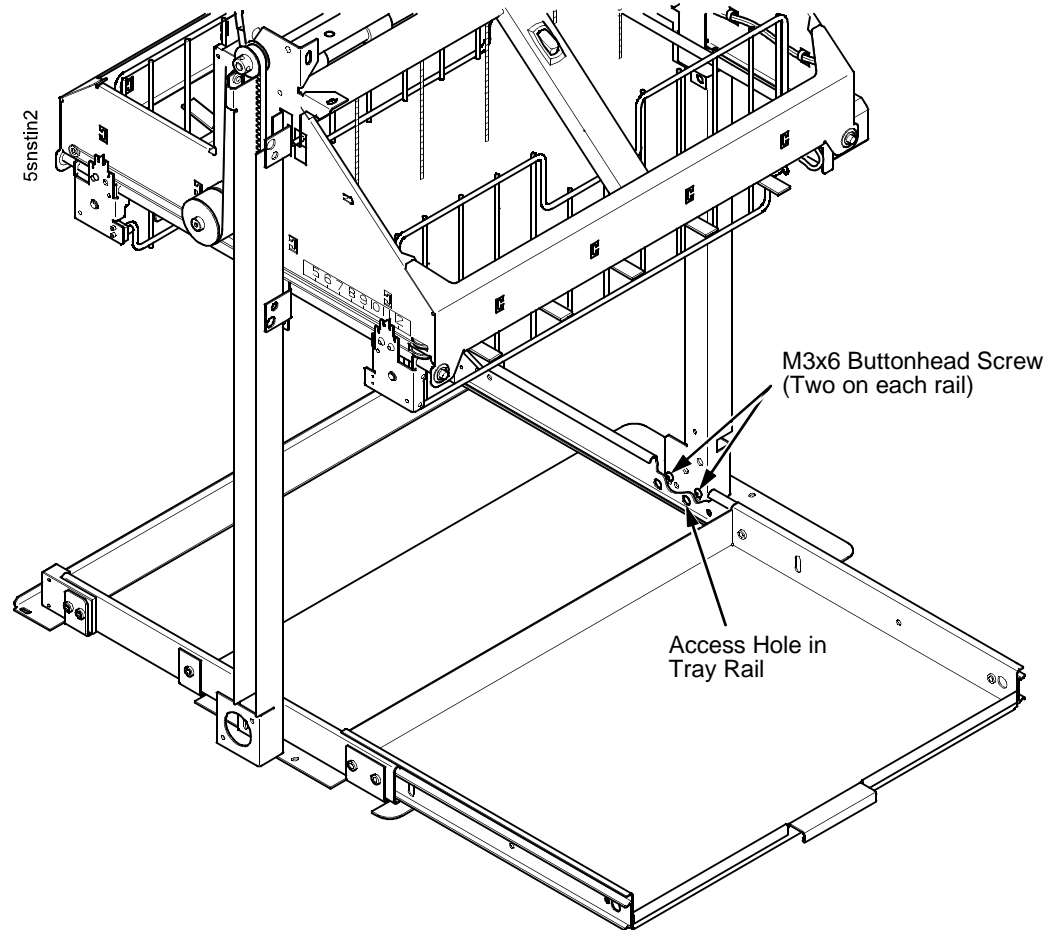

Figure 88. This figure shows how to loosen the lower screws in the vertical rails of the stacker.
15. Pull the paper tray out until the holes in the rails permit access to the M3 buttonhead screws. (Figure 88.)
16. Loosen one turn—do not remove—the M3x6 screws securing the vertical rails to the stacker base. Each rail is secured by two screws. (Figure 88.)
35. Pull the paper tray out until the holes in the rails permit access to the M3x6 screws. Tighten the M3 screws securing the vertical rails to the stacker base. Each rail is secured by two screws. (Figure 88.)